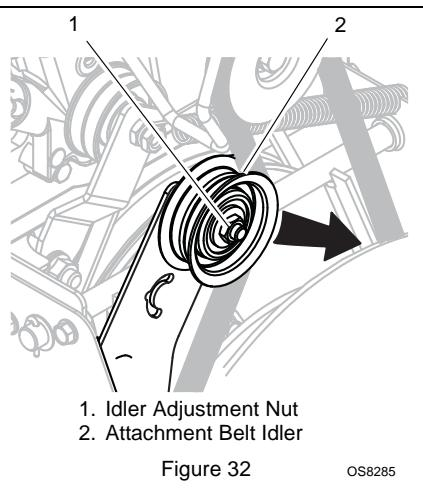

Figure 32
- If roller is less than $1/2$ in. (12.7 mm) from frame, loosen idler adjustment nut and move idler closer to the belt. Tighten adjustment nut and recheck the roller clearance (Figure 32).
- If roller is more than $7/8$ in. (22.2 mm) from frame, loosen idler adjustment nut and move idler away from the belt. Tighten adjustment nut and recheck roller clearance (Figure 32).